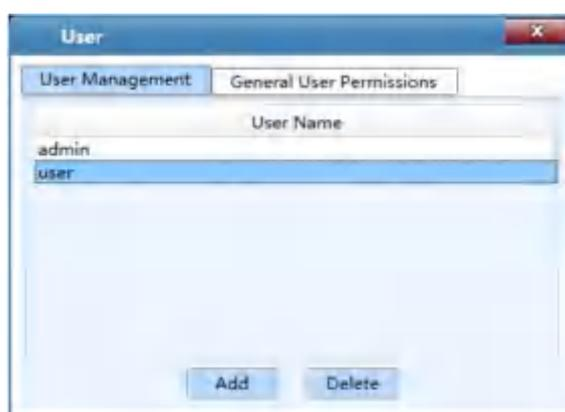

Figure D-2.9a User interface - User Management tab
3. **User:** click **User** option in the **Option** submenu and the application software will automatically pop up the user interface, as shown in figure D-2.9a.